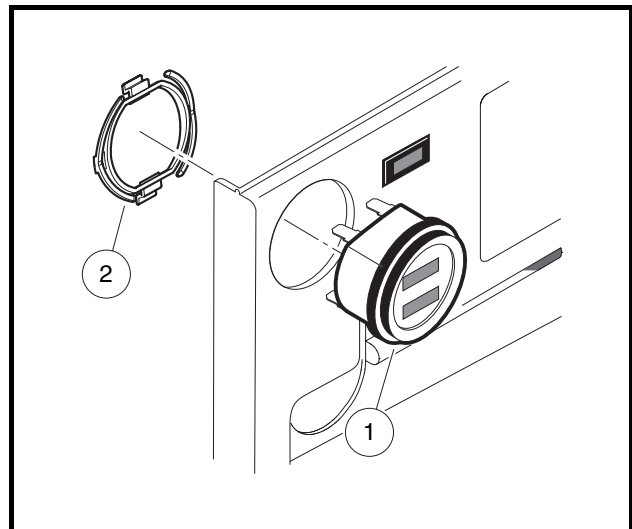

Figure 14-22 Fuel Gauge/Hour Meter Installation
3. Disconnect the wires from the fuel gauge/hour meter (1) (**Figure 14-22, Page 14-20**). Do not allow wires to touch.
4. Remove the mounting clip (2) that secures the gauge/meter. Alternate pulling the lower and upper tabs away from the gauge housing to remove clip.
1. Install a new fuel gauge/hour meter (1) into the hole in the instrument panel until the flange seats against the instrument panel (**Figure 14-22, Page 14-20**).
2. Force the mounting clip (2) onto the back of the fuel gauge/hour meter until fully seated.